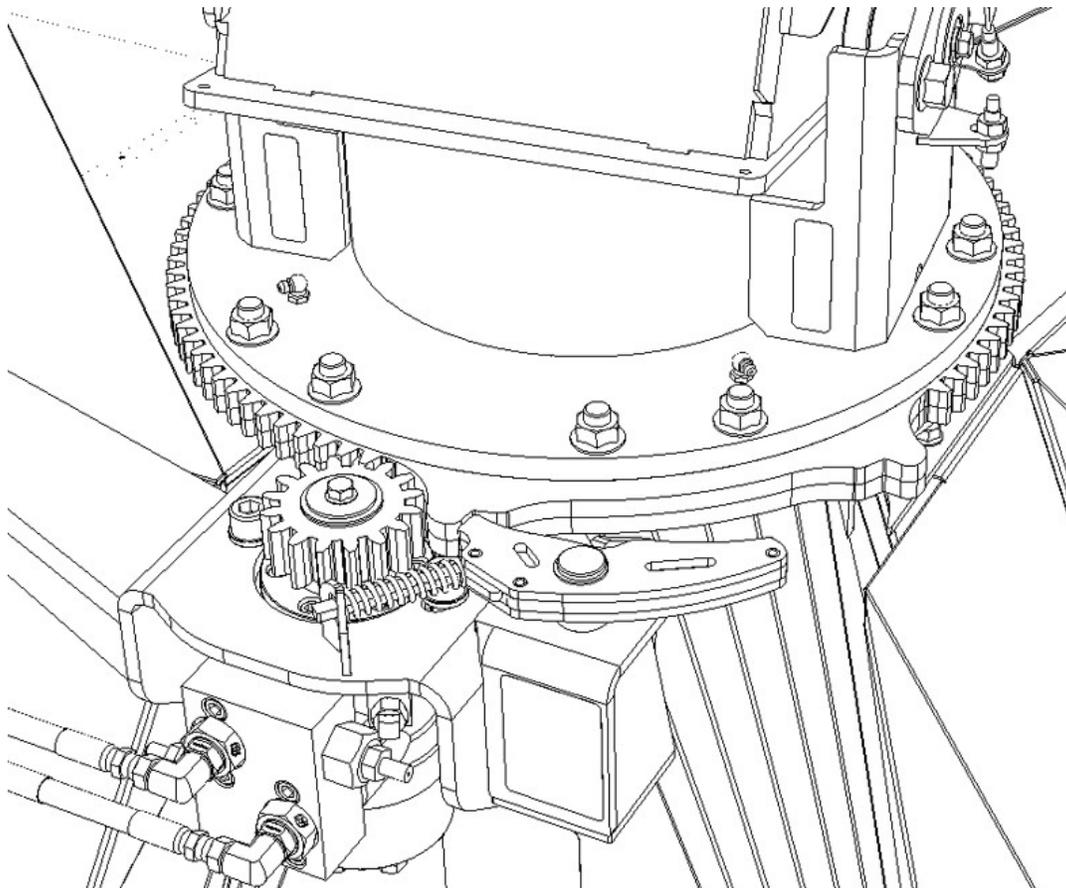

Figure 89 Spout in locked position
4. For models equipped with the 'Stinger' spout extension, rotate it to transport position (full forward position) and lower it completely. (The lowest cylinder position is limited to maintain a suspension stroke). In this position, make sure the spout is properly locked (FIGURE 89).